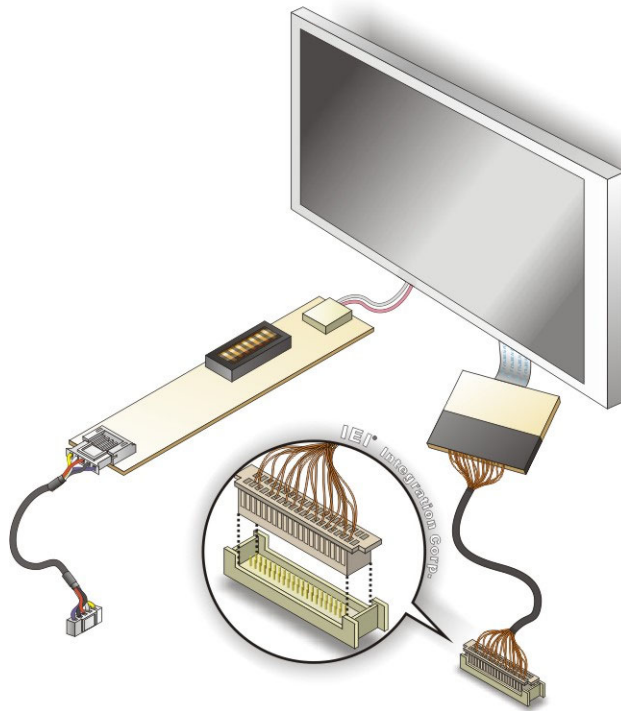

Figure 4-13: LVDS Connector
Step 2: Insert the cable connector. Insert the connector from the LVDS PCB driving board to the LVDS connector as shown in **Figure 4-13**. When connecting the connectors, make sure the pins are properly aligned.